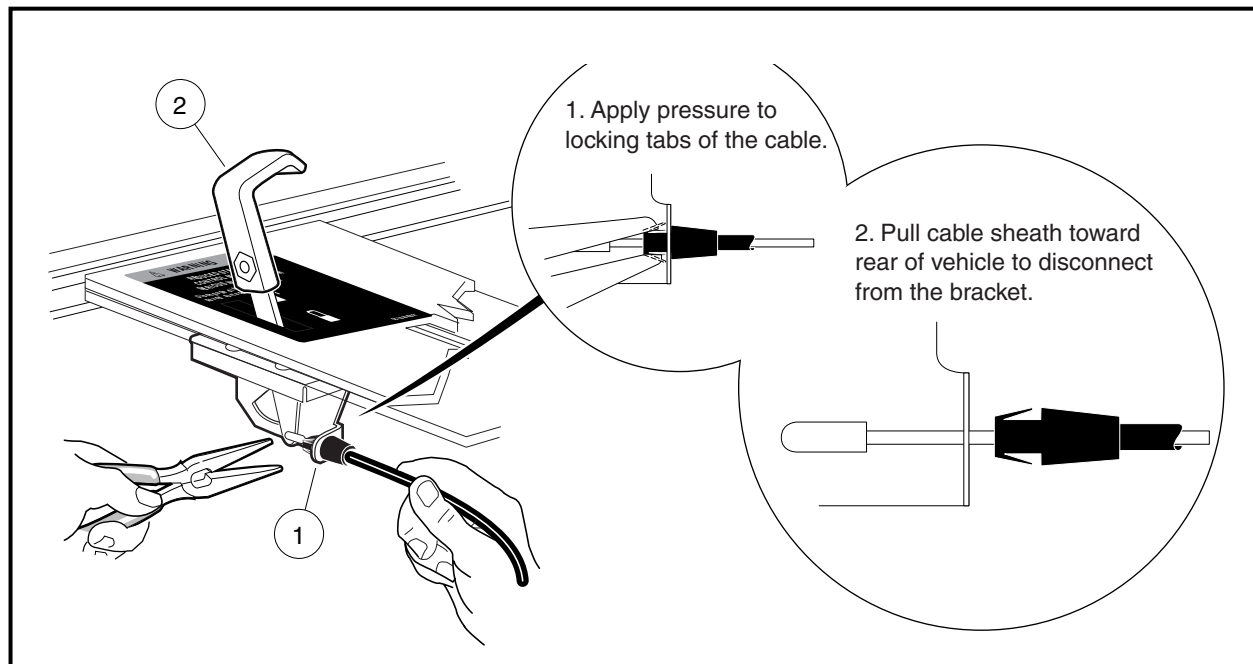

Figure 16-12 Differential Lock Cable Bracket
5.2. Use a pair of pliers and apply pressure to the locking tabs of the cable end (1) where it attaches to the differential lock handle mounting bracket (**Figure 16-12, Page 16-8**). Pull the differential lock cable toward the rear of the vehicle to disconnect the cable from the bracket (**Figure 16-12, Page 16-8**).